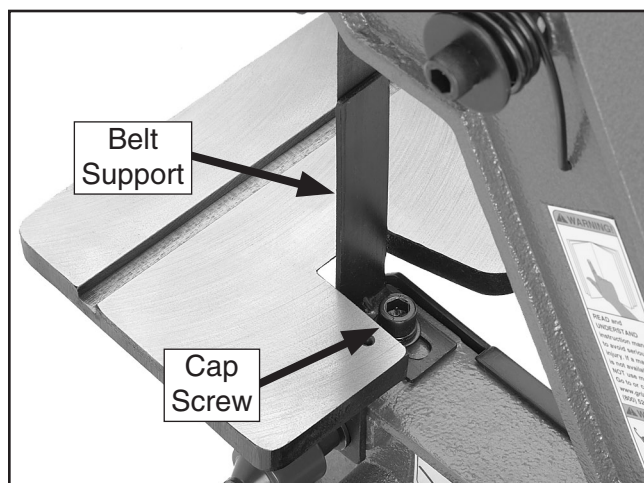

Figure 20. Sanding belt support.
21. Loosen the cap screw shown in **Figure 20**, adjust the belt support approximately $\frac{1}{16}$ " away from the sanding belt, then re-tighten the cap screw.